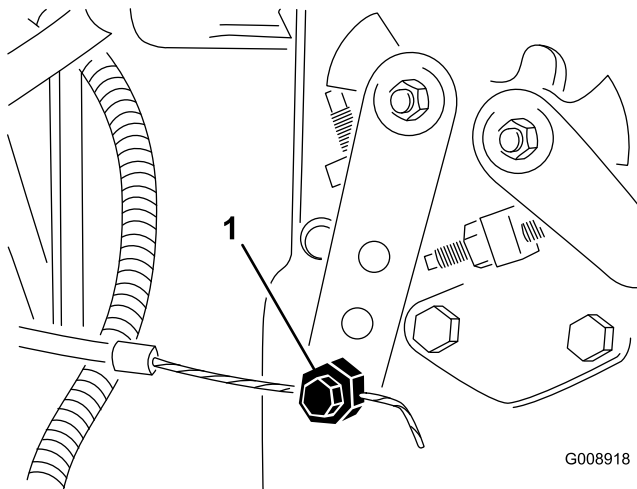

Figure 73
2. Loosen the throttle cable connector on the injection-pump lever arm (Figure 73).